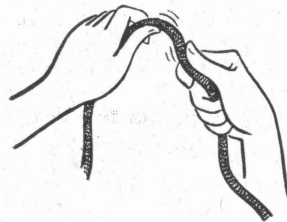

Fig. 7
3. Flex cord (Fig. 7) to locate broken wires.